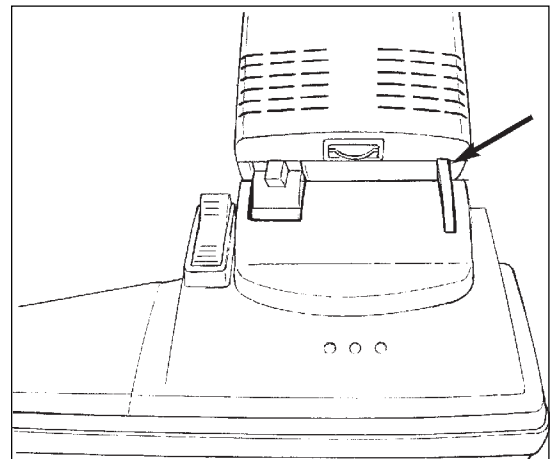

Figure 3
- c. Lower canister housing completely onto brush housing until pin clicks into place and latches (see figure 3).